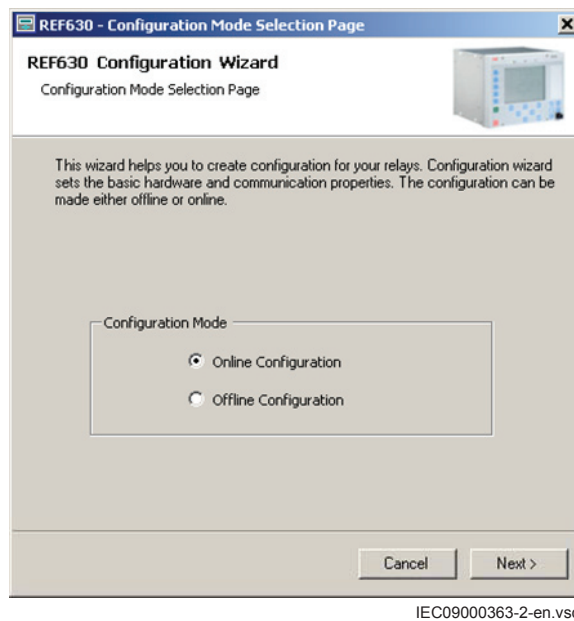

Figure 10: PCM600: Configuration mode selection wizard
3. Select the *Online Configuration* mode, see Figure 10.